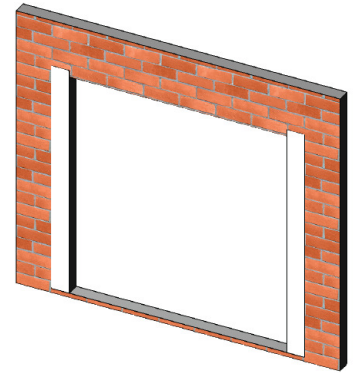

Figure 17:
2. At each jamb, embed the flashing paper into the sealant onto mounting flange and fasten into place. The flashing paper should be cut sufficiently long enough to extend at least 3 inches past the weep-screed or diado flashing and at least 6 inches above the head of the window (Figure 17).